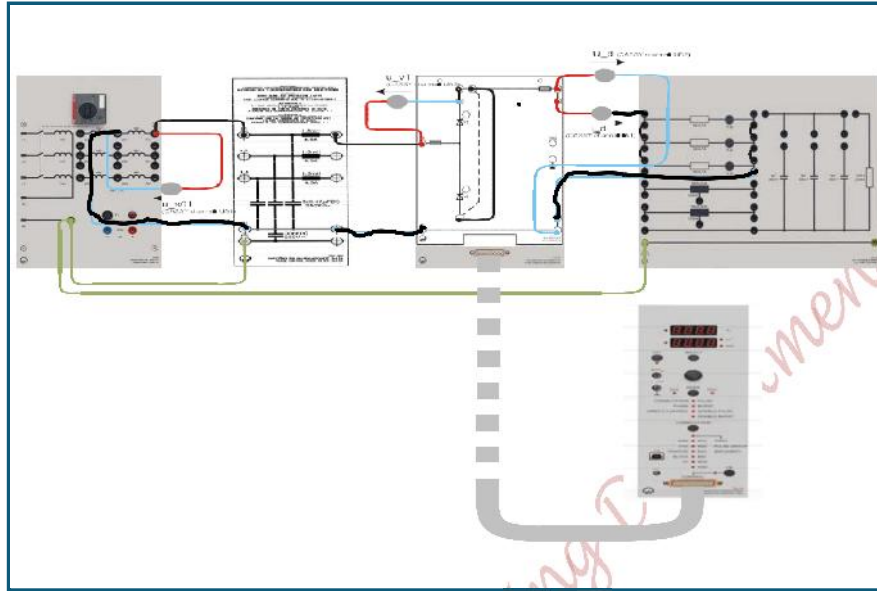

Figure 2.1 Configuration of an AC Voltage Controller supplying a resistive load
- Connect the components as shown in Figure 2.1. The load is purely resistive of 33.3Ω (3 resistors in parallel of 100Ω each)